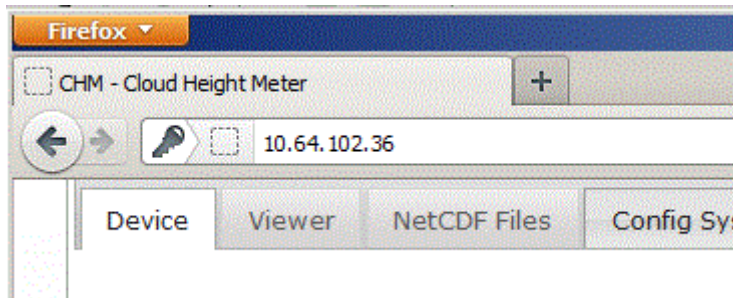

Figure 15 Firefox browser for a connection with the CHM 15k (shown here with fixed IP address).
One of the 3 IP addresses can be entered into a web browser (Figure 15) for communication with the device. Figure 20 shows the "Config Network" tab in the Internet browser Firefox. Changing the user IP address (3) requires superuser authorization in the device tab.